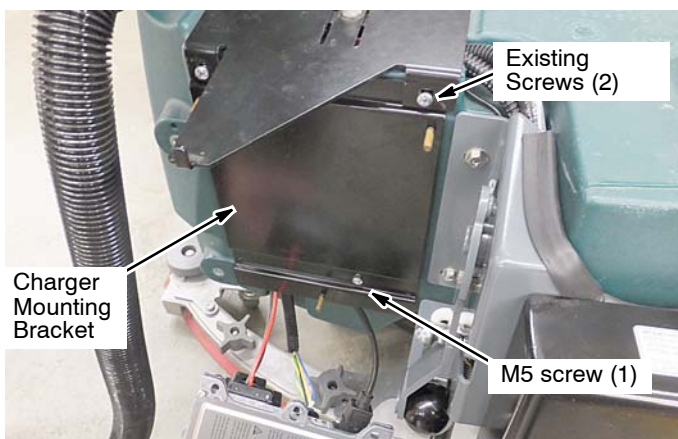

FIG. 23
9. Attach the new battery charger mounting bracket to the machine as shown (FIG. 23). Use existing screws at top and shorter M5 screw, supplied with kit, at bottom.